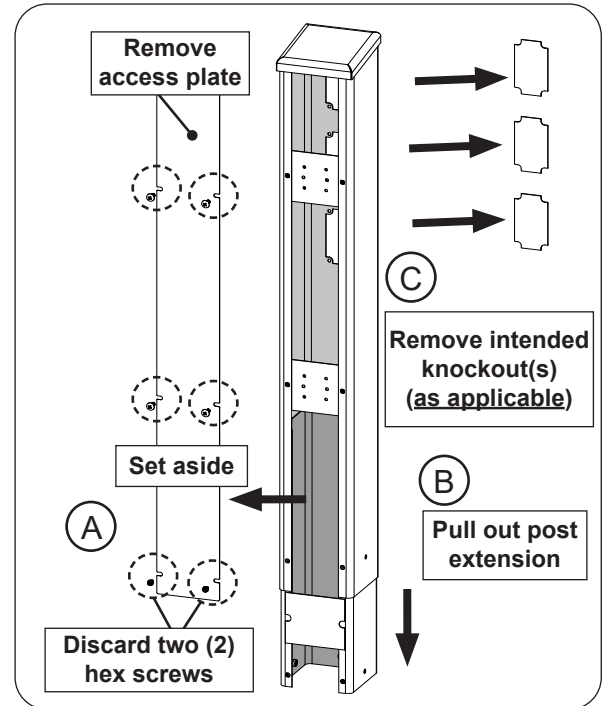

Fig. 5-2 Post preparation
2. Discard the bottom two $\frac{5}{16}$ " hex screws and set aside the access plate with the top four screws for later reinstallation. See Fig. 5-2, A.
3. Pull out the post extension from the post. See Fig. 5-2, B.
4. As needed, select and remove the intended knockout(s) from the stainless steel post. See Fig. 5-2, C.